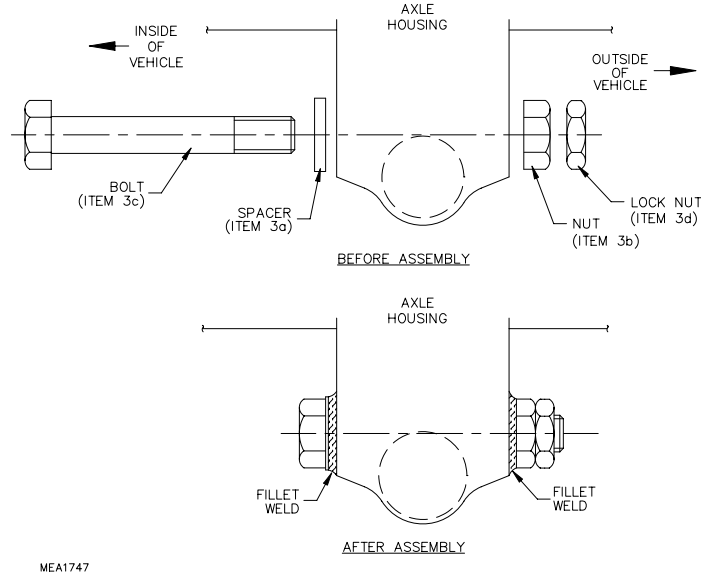

Figure 3 Rear Lower Link
- (1)** Using a grinder or file, clean the outside surfaces of both the lower link mounts on the axle casing.
- (2)** Fit Items 3a, 3b and 3c from Table 1 to the axle case mounts (Figure 3), ensuring that the bolt is installed from inside to out and is parallel to the axle casing centre line.
- (3) Tighten the bolt firmly.
- (4) Weld the inside washer and the outside nut to the axle casing mount, as shown in Figure 3, with a 3 mm continuous fillet weld, using either:
- (5) Remove the bolts and paint all bare metal surfaces.